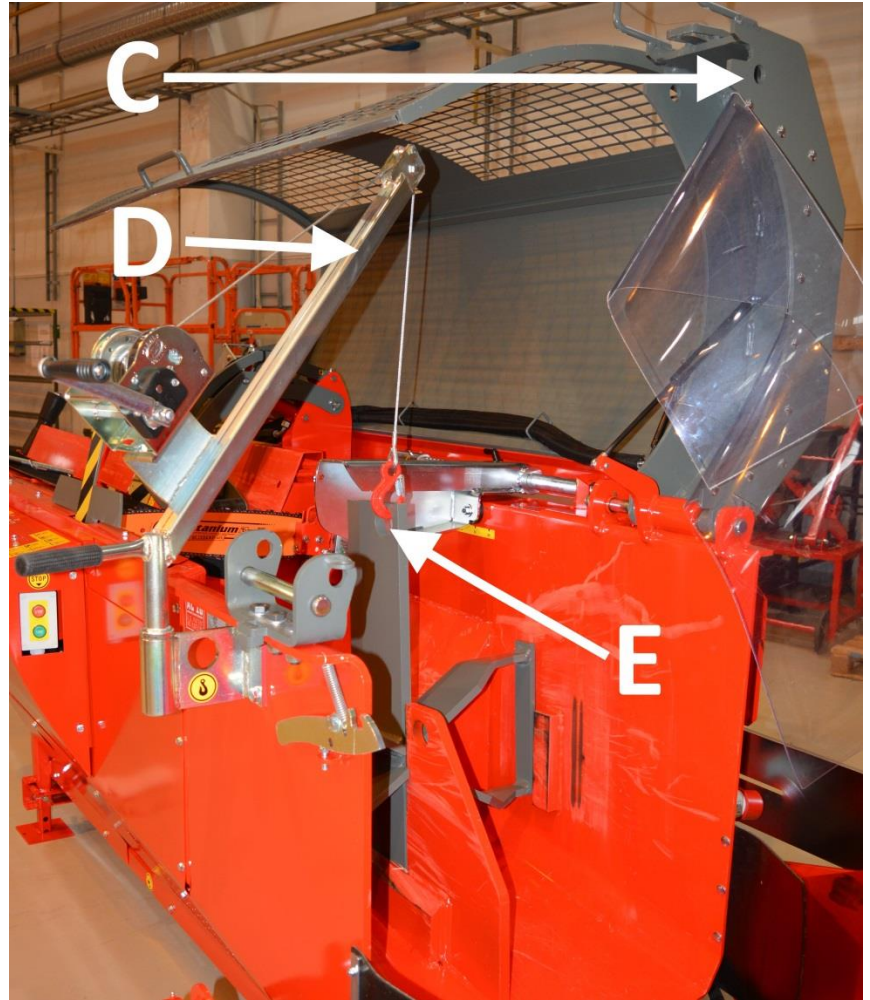

Figure 21.
5. Connect the hook of winch D to the splitting blade's lifting hole E, as shown in Figure 21.